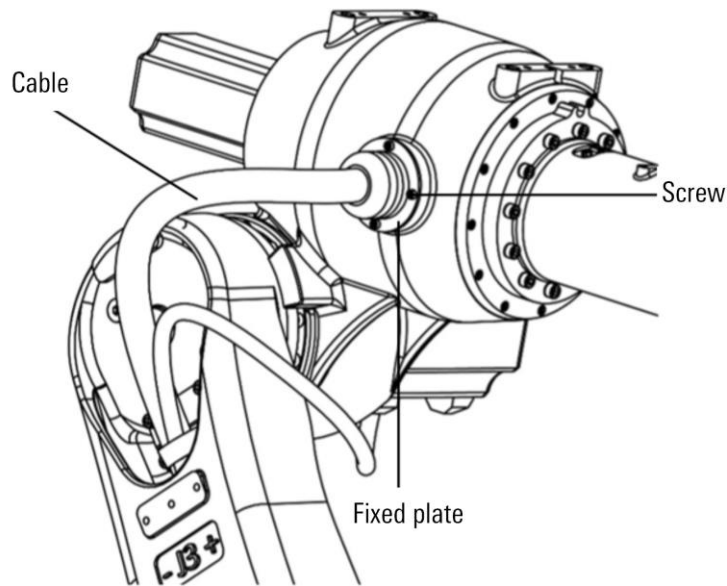

Figure 12-3 Internal cable at elbow
- Step1. Remove the elbow cable fixing plate, as shown in Figure 12-3.